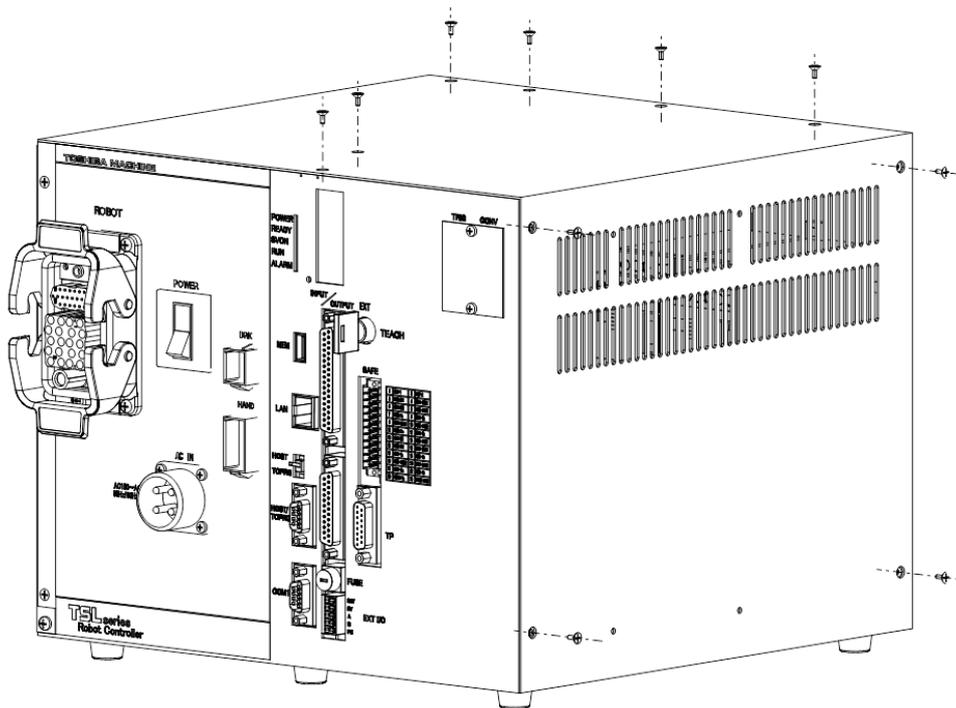

Fig. 5.4 Removing upper cover (TSL3100E)
- b) For maintenance, the upper cover should be removed. (See Fig. 5.4.)